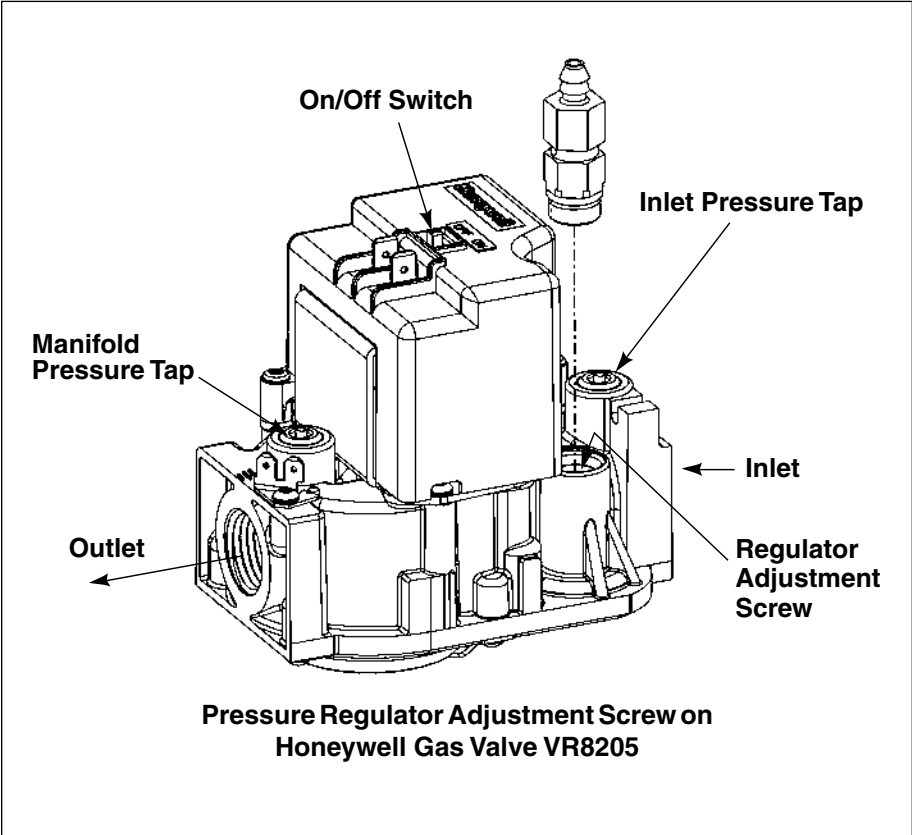

Figure 1
3. Remove the pressure regulator adjustment screw located underneath the cap screw. For condensing furnaces, the Pressure Regulator Adjustment is located underneath the brass fitting (see Figure 1).
1. With a 3/16 inch Allen wrench, remove the manifold pressure tap plug located on the outlet side of the gas valve. Refer to Figure 1.
1. If the manifold pressure must be adjusted, remove the protective cap from the top of the gas valve regulator, as shown in Figure 1.